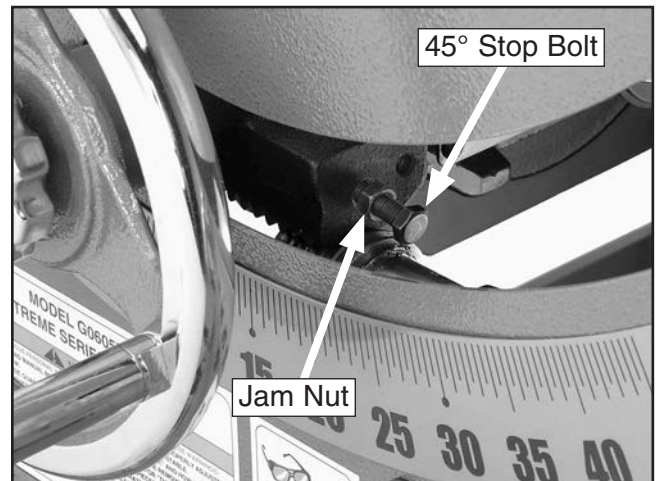

Figure 125. 45° stop bolt and jam nut.
5. Loosen the jam nut on the 45° stop bolt (see **Figure 125**) with a 13mm wrench, then adjust the stop bolt up or down according to how far off the blade was from 45°.